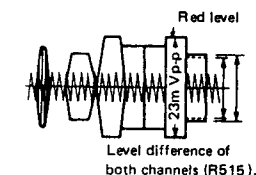

Figure 2-7
- c) Adjust R515 (record chrominance level control) so that the red level becomes 23m Vp-p as shown in Fig. 2-7.